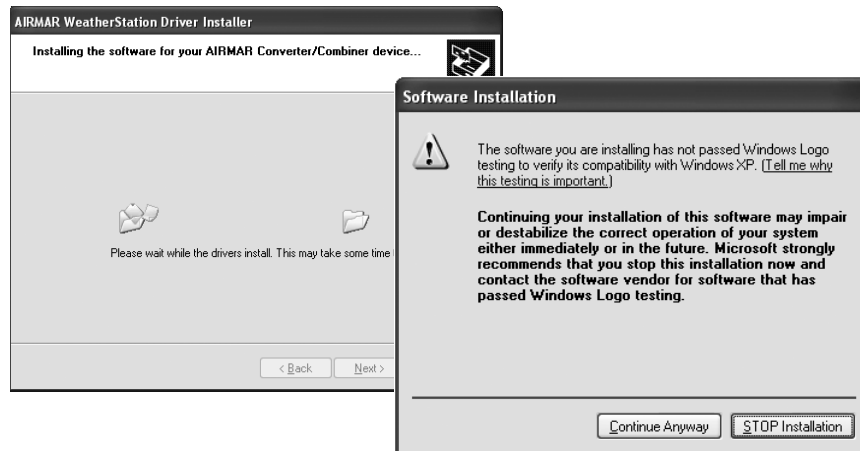

Figure 9. Please Wait and Software Installation caution windows
4. The Please Wait window followed by the Software Installation caution window will appear (see Figure 9). The drivers are not Microsoft Windows® certified. However, they have been tested for stable and reliable operation. Click Continue Anyway to proceed with the installation.
5. The Please Wait and the Software Installation caution windows will appear again (see Figure 9). Click Continue Anyway to proceed with the installation.